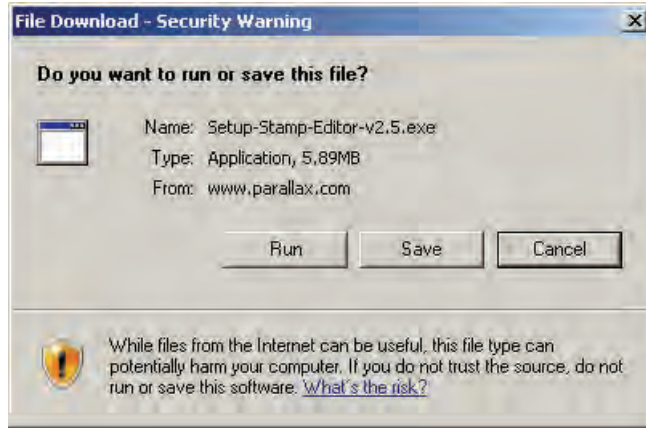

Figure 1-3
- ✓ A File Download window will open, asking you if you want to run or to save this file (Figure 1-3). Click Save.